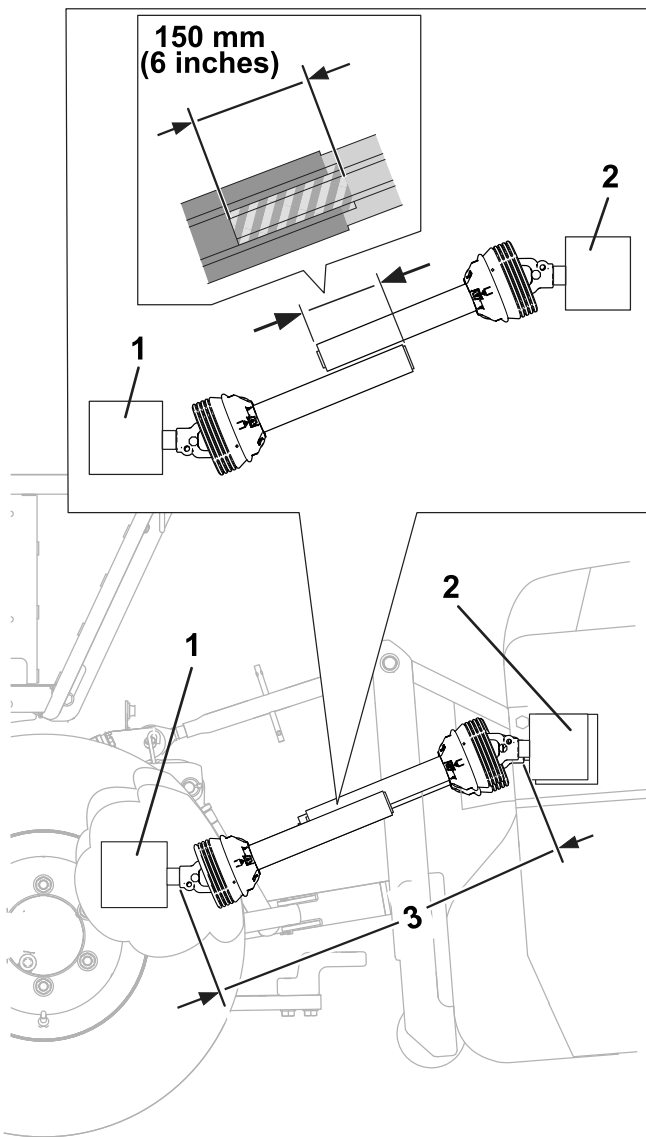

Figure 16
- 10. Raise the attachment to the position where the traction-unit PTO output shaft and gearbox input shaft are furthest apart (Figure 16).
- 11. Hold the driveshaft sections parallel to each other and check to ensure that they overlap 150 mm (6 inches) or more (Figure 16).